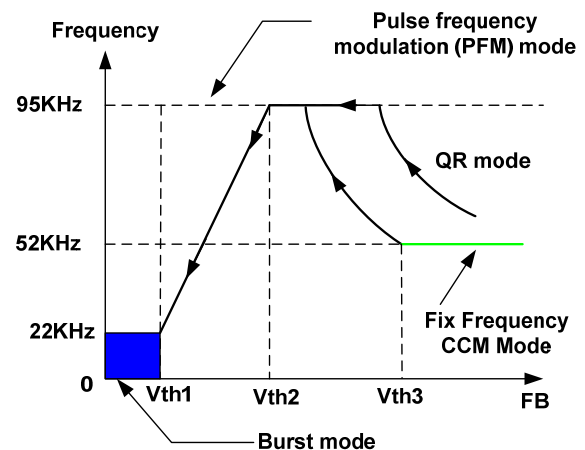

Figure 1
■ At full load conditions ($FB > V_{th3}$, Figure 1), there are two situations: firstly, if the system input is in low line input range, the IC operates in fixed frequency CCM mode. Thus, small size transformer can be used with high power conversion efficiency. Secondly, if the system input is in high line input range, the IC operates in QR mode. In this way, high power conversion efficiency can be achieved in the universal input range when system is at full loading conditions.
■ At normal operating conditions ($V_{th2} < V_{FB} < V_{th3}$, Figure 1), the system operates in QR mode. The frequency varies depending on the line voltage and the load conditions. Therefore, the system may actually work in DCM when 95KHz frequency clamping is reached.
■ At light load conditions ($V_{th1} < V_{FB} < V_{th2}$, Figure 1), the system operates in PFM (pulse frequency modulation) mode for high power conversion